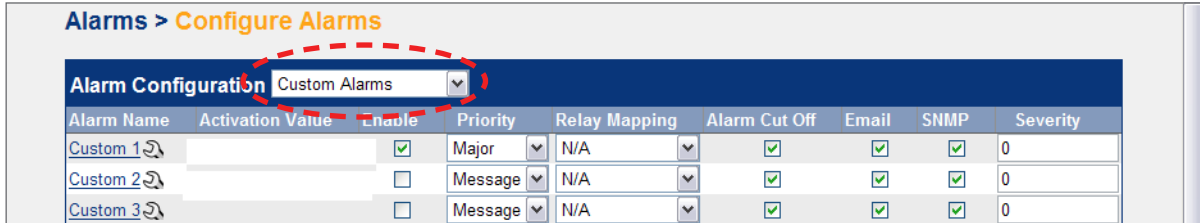

Figure 48 — Configuring a Custom Alarm
1. Select the menu item **Alarms > Configure Alarms** (Figure 48).